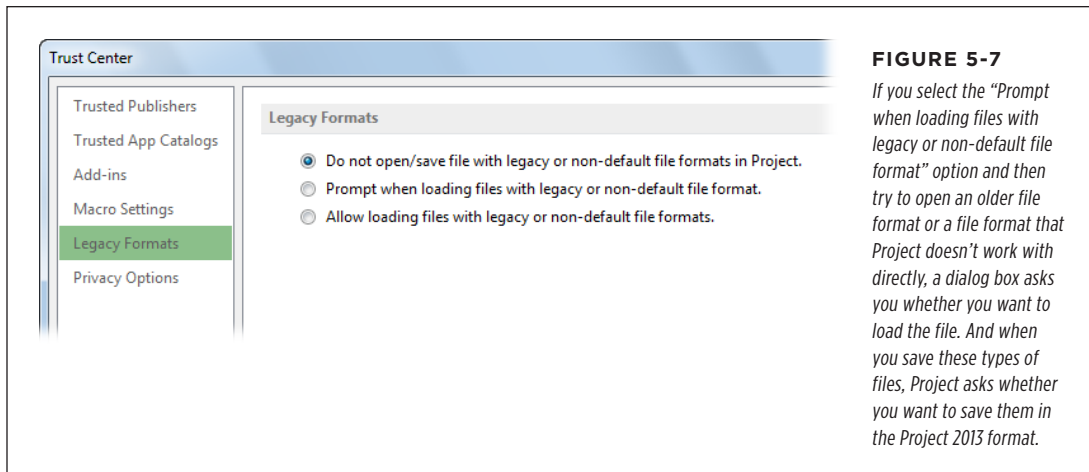

FIGURE 5-7
- 3. Click Legacy Formats, and then select the Legacy Format option you want, as shown in Figure 5-7. Then click OK.**